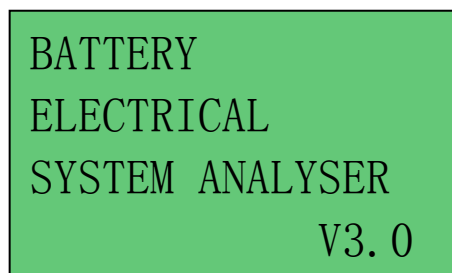

Figure 10
1. Attach the Analyser clips onto the battery terminal posts [Red to (+) and Black to (-)] the unit will power up and lights up the LCD display screen as shown (Fig.10).